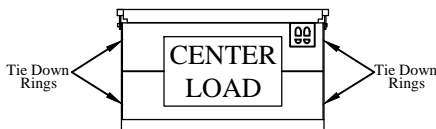

Figure 8: Step 9.
- Step 9. To load and use the railgate, center the load on the platform side to side and front to back (Figure 8). Put heavier loads as close to the front of the platform as possible (near truck). Tie Down Rings are provided for securing the load. Retention Ramp may be moved to Vertical or Loading Position at this time.
- D. Stand in the area indicated by the footprints in the figure below (Figure 8), keeping hands and feet away from the edges and any moving parts.